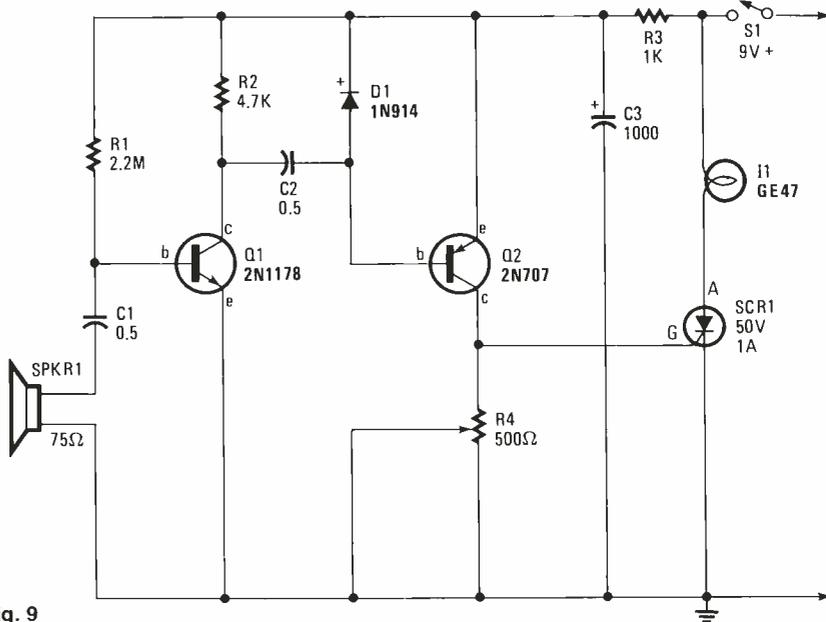

Fig. 9
The letter from J.O., Houston, TX, indicates that he's had some problems with his car battery. He writes to ask if there isn't some way to warn him when the battery needs recharging. Such a circuit is shown in Fig. 9.
F.K., of Greenfield, MA has a father who is deaf and doesn't always hear the phone ringing. He wants a sound-operated switch that will sense the ring of the phone and translate this to a lamp that will go on and off. The schematic diagram in Fig. 9 should do the job nicely. The sound is picked up by the small loudspeaker,